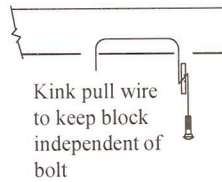

Figure 3
- Feed spacers and carriage bolts into position using the pull wires provided. Leave pull wire attached. Note: It is much easier if bolt and spacer are not engaged while inserting them into frame, refer to illustration. See Figure 3 & 4.